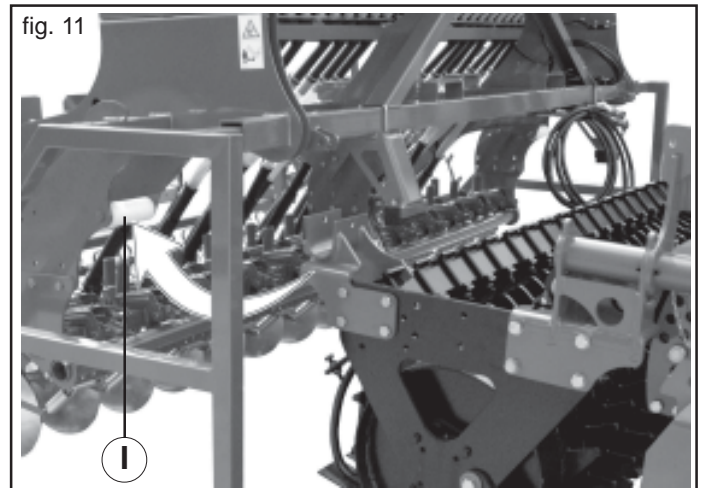
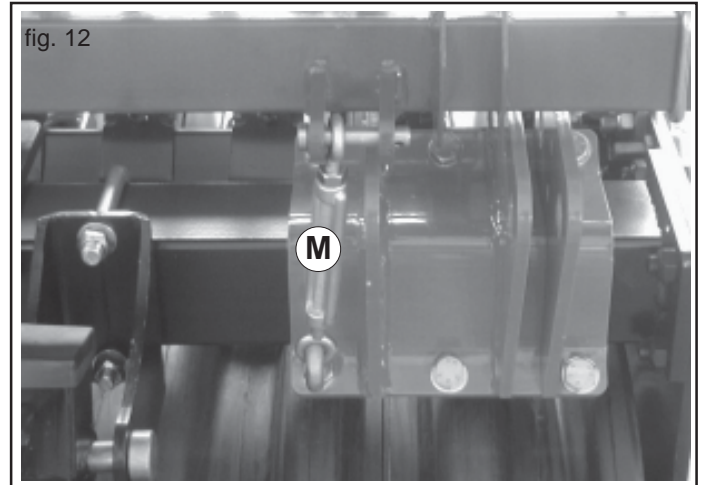
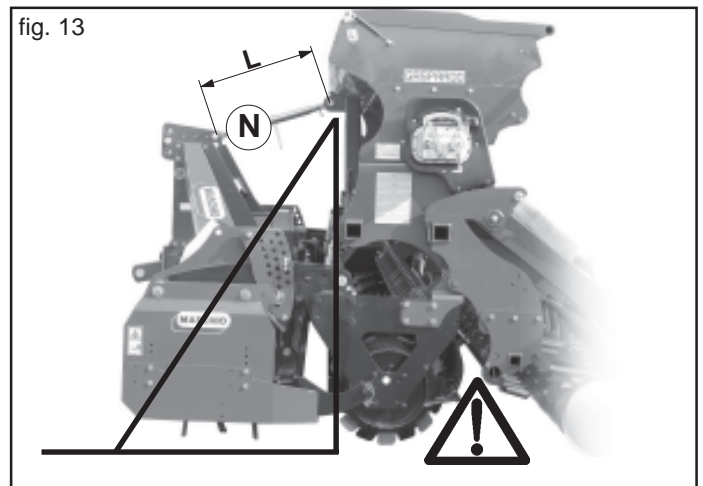

fig. 11
fig. 12
fig. 13
- 3) With the tractor come closer the seeder and, by operating on the lifter, hook the equipment in the suitable points (I, Fig. 11). Check, that there aren't or can't be interferences among the mechanical members of the two machines. Especially check the area between the hind roller and the coulter arms (Fig. 13).
- 5) Hook the tie-rods (M, Fig. 12) between seeder and roller; adjust the same ones to put in order the equipment perpendicularly to the ground (Fig. 13).
- 6) Hook the upper tie-rod (N Fig. 13) between seeder and rotating harrow, by adjusting the length (L) according to the rear roller utilized:
- 6) Hook the upper tie-rod (N Fig. 13) between seeder and rotating harrow, by adjusting the length (L) according to the rear roller utilized: roller Ø 600 - L = 720 mm.